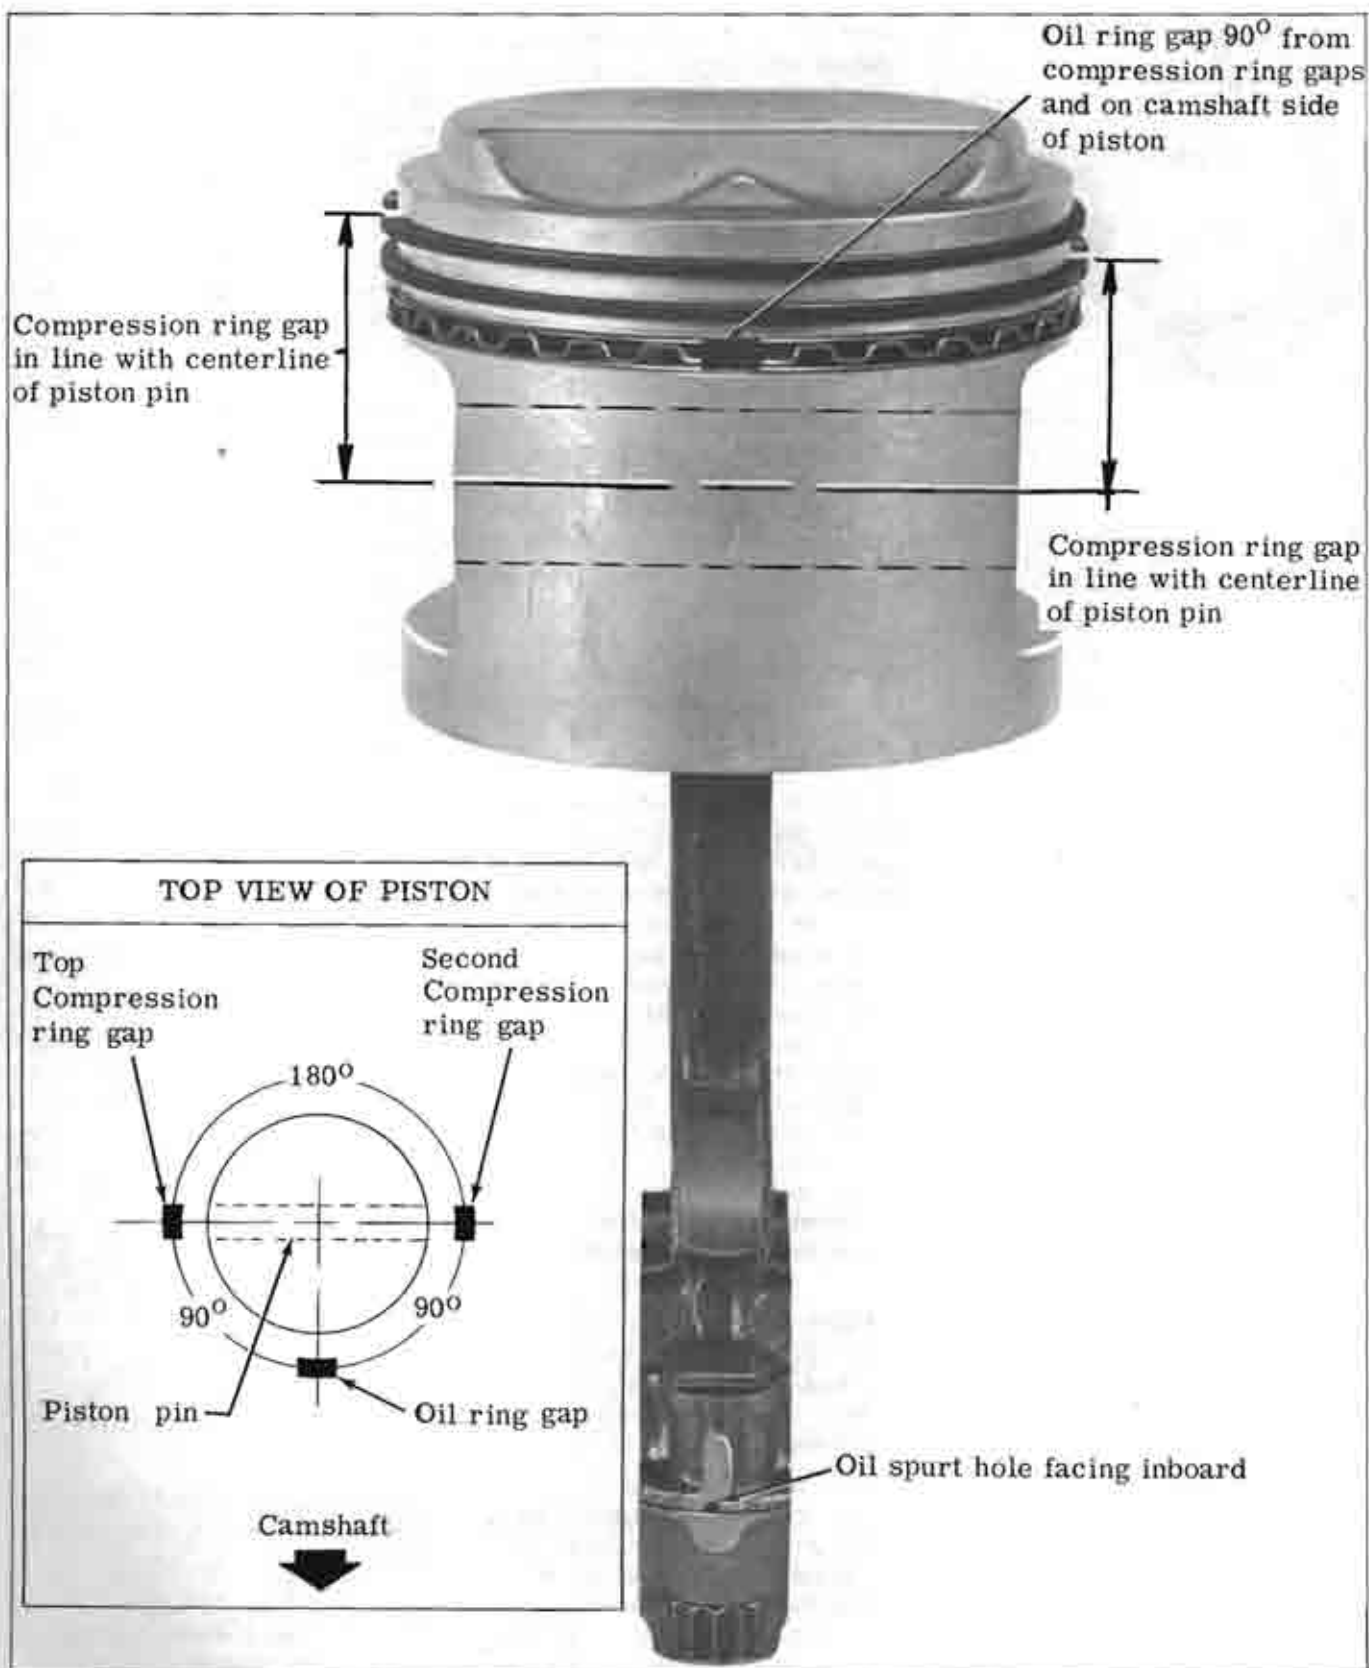

Figure 60-147—Piston Ring Gap Positioning
6. Install piston rings as shown in Figure 60-147.
d. Ring gaps - all three ring gaps must be 90° apart. See Figure 60-147.